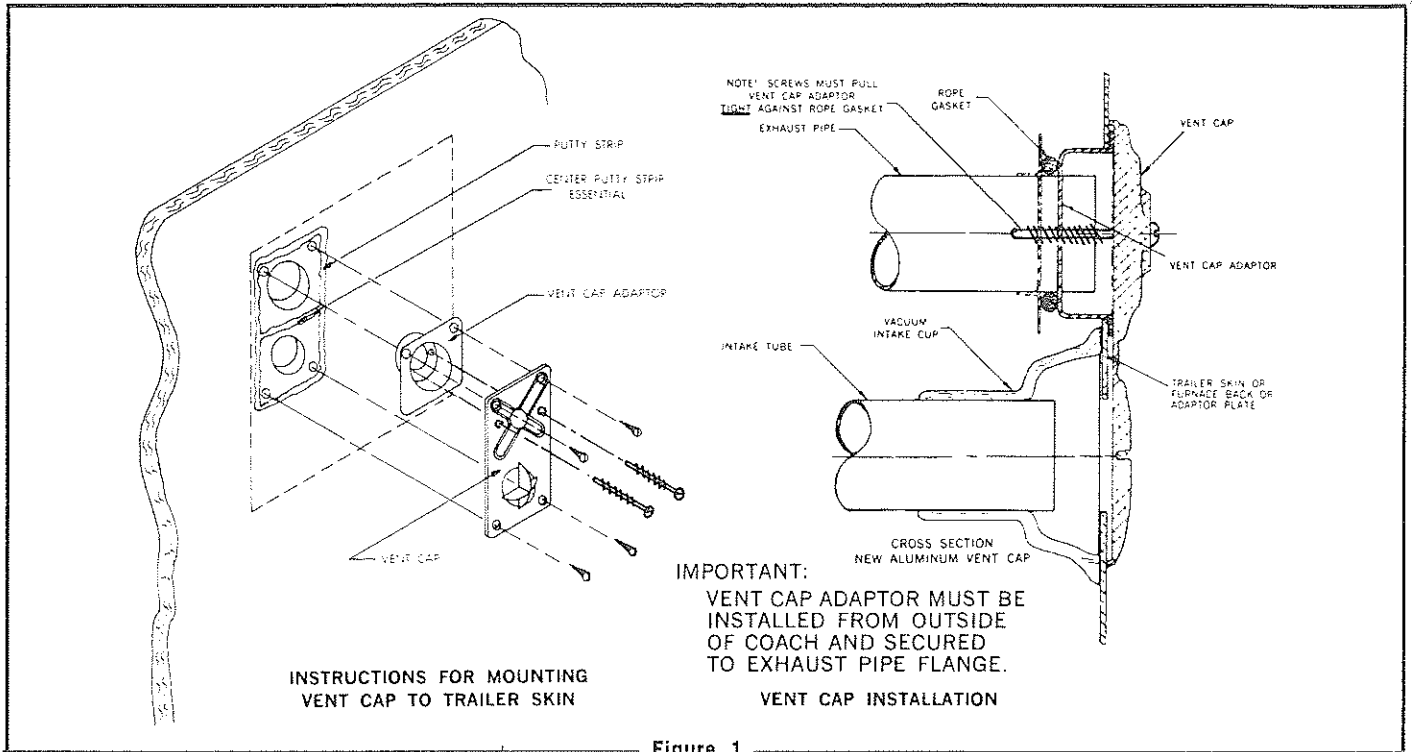

Figure 1
- Secure one-piece vent cap to the outside of the backplate according to Figure 1. Please insure that the vent cap adaptor is installed on the exterior of the furnace backplate!
- d. Refer to Figure 1-A or 1-B (depending on the model being installed) and pierce holes as shown in outer skin.
- f. Secure one-piece vent cap to the outside of the outer skin with the four (4) screws provided. (See Figure 1 for correct installation of vent cap and vent cap adaptor.)
- d. Refer to Figure 1-A or 1-B (depending on the model being installed) and find centers of exhaust and intake holes. Draw a 4" wide x 8" high rectangle equal distances around the two centers as indicated by the dotted line in Figure 2-D. From each center the rectangle should measure 2 $\frac{1}{4}$ " vertically and 2" horizontally. Cut this out through inner and outer skin of vehicle.
- g. Secure one-piece vent cap to vehicle's exterior skin in accordance with Figure 1. Caution! Be sure the vent cap adaptor is installed on the exterior of the special adaptor back!